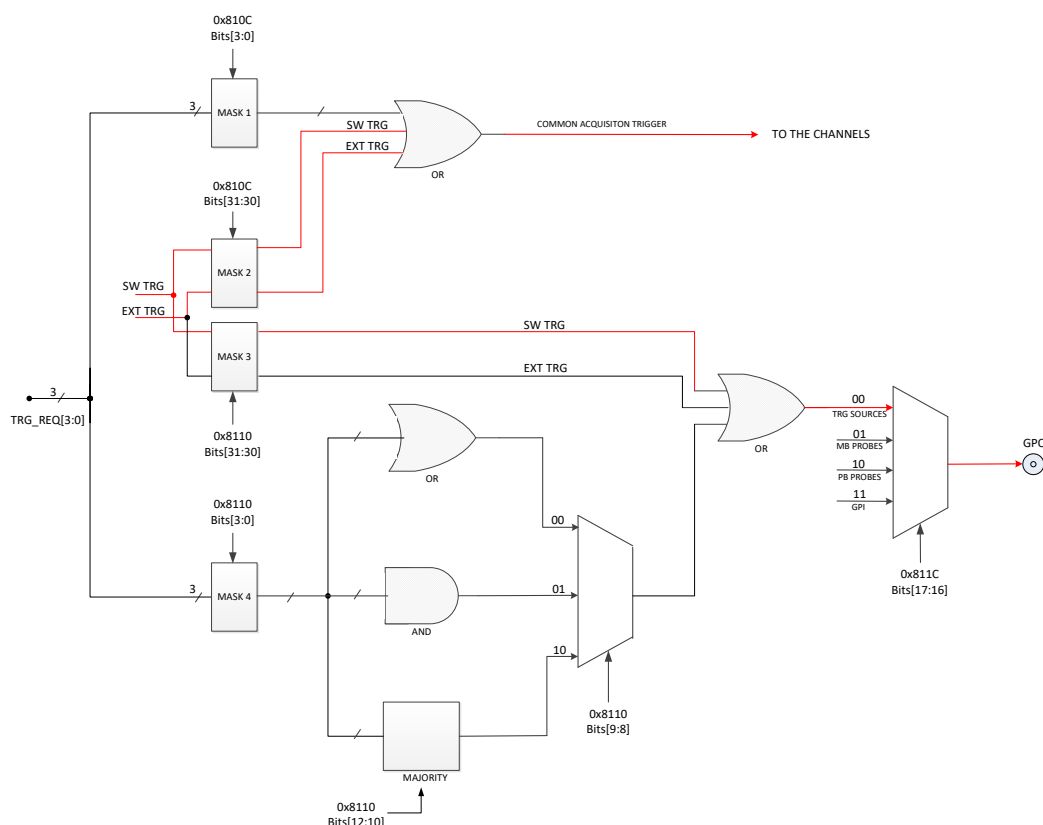

Fig. 8.17: Trigger configuration on GPO front panel output connector
As described in § **Trigger Management**, the OR of all the enabled trigger sources, synchronized with the internal clock, becomes the common trigger of the board that is fed in parallel to all channels, consequently provoking the capture of an event. By default, only the Software Trigger and the External Trigger participate in the common acquisition trigger (refer to the red path on top of **Fig. 8.17**).
A Trigger Out signal is also generated on the relevant front panel GPO connector (NIM or TTL), and allows to extend the trigger signal to other boards. Thanks to its configurability (see **Fig. 8.17**), GPO can propagate out:
- the OR of all the enabled trigger sources (only the Software Trigger is provided by default, as in the red path of **Fig. 8.17**);